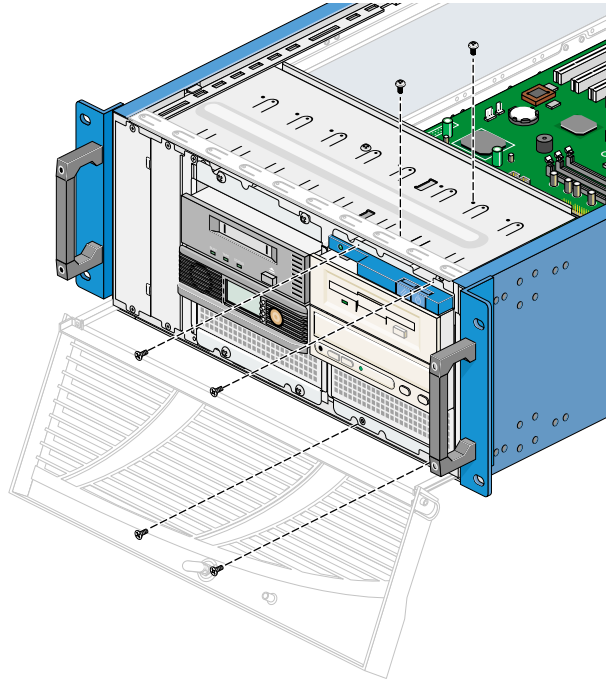

Figure 5-2 Unscrewing the Drive Cage
8. Unscrew the four screws (two on top flange, two on bottom flange) that attach the front of the drive cage to the front of the node chassis; see Figure 5-2.
9. Remove the two screws at the top of the drive cage; see Figure 5-2.